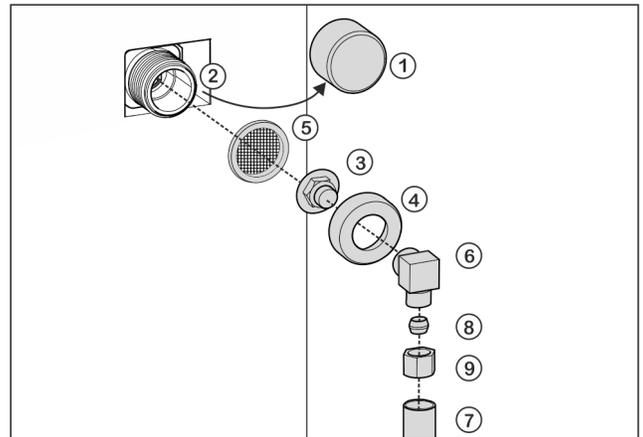

Fig. 26
- Remove cap Fig. 26 (1) from solenoid valve Fig. 26 (2).
- Insert coupler Fig. 26 (3) into union nut Fig. 26 (4).
Improper installation of water filter Fig. 26 (5)!
- Insert water filter Fig. 26 (5) with the recess pointing down towards coupler Fig. 26 (3).
- Attach union nut Fig. 26 (4) to solenoid valve Fig. 26 (2) and tighten.
- Screw on angle piece Fig. 26 (6).
- Connect water pipe Fig. 26 (7) (e.g. copper) to angle piece Fig. 26 (6) using clamp ring Fig. 26 (8) and nut Fig. 26 (9).
- Attach water pipe Fig. 26 (7) to the housing if possible, using the clip bracket.
- Put angle piece Fig. 26 (6) to one side.
- Connect water pipe Fig. 26 (7) (e.g. copper) to coupler Fig. 26 (3) using clamp ring Fig. 26 (8) and nut Fig. 26 (9).